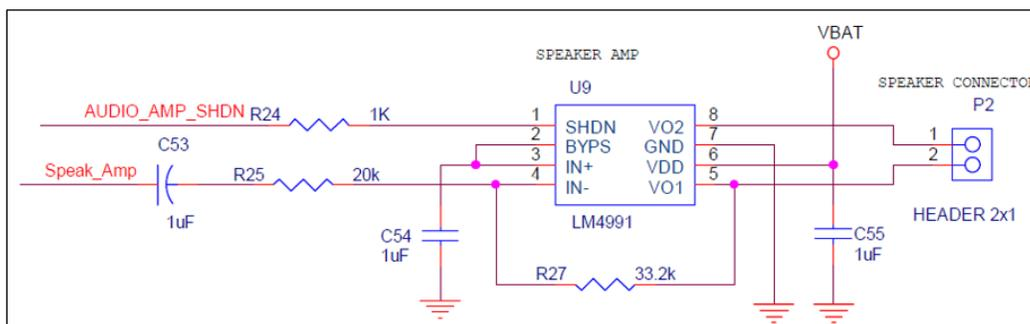

Fig 24-17 Reference design of using AB type power amplifier
- If the power amplifier is an AB type amplifier, refer to the design shown in Fig 24-17 (power amplifier is LM4991).